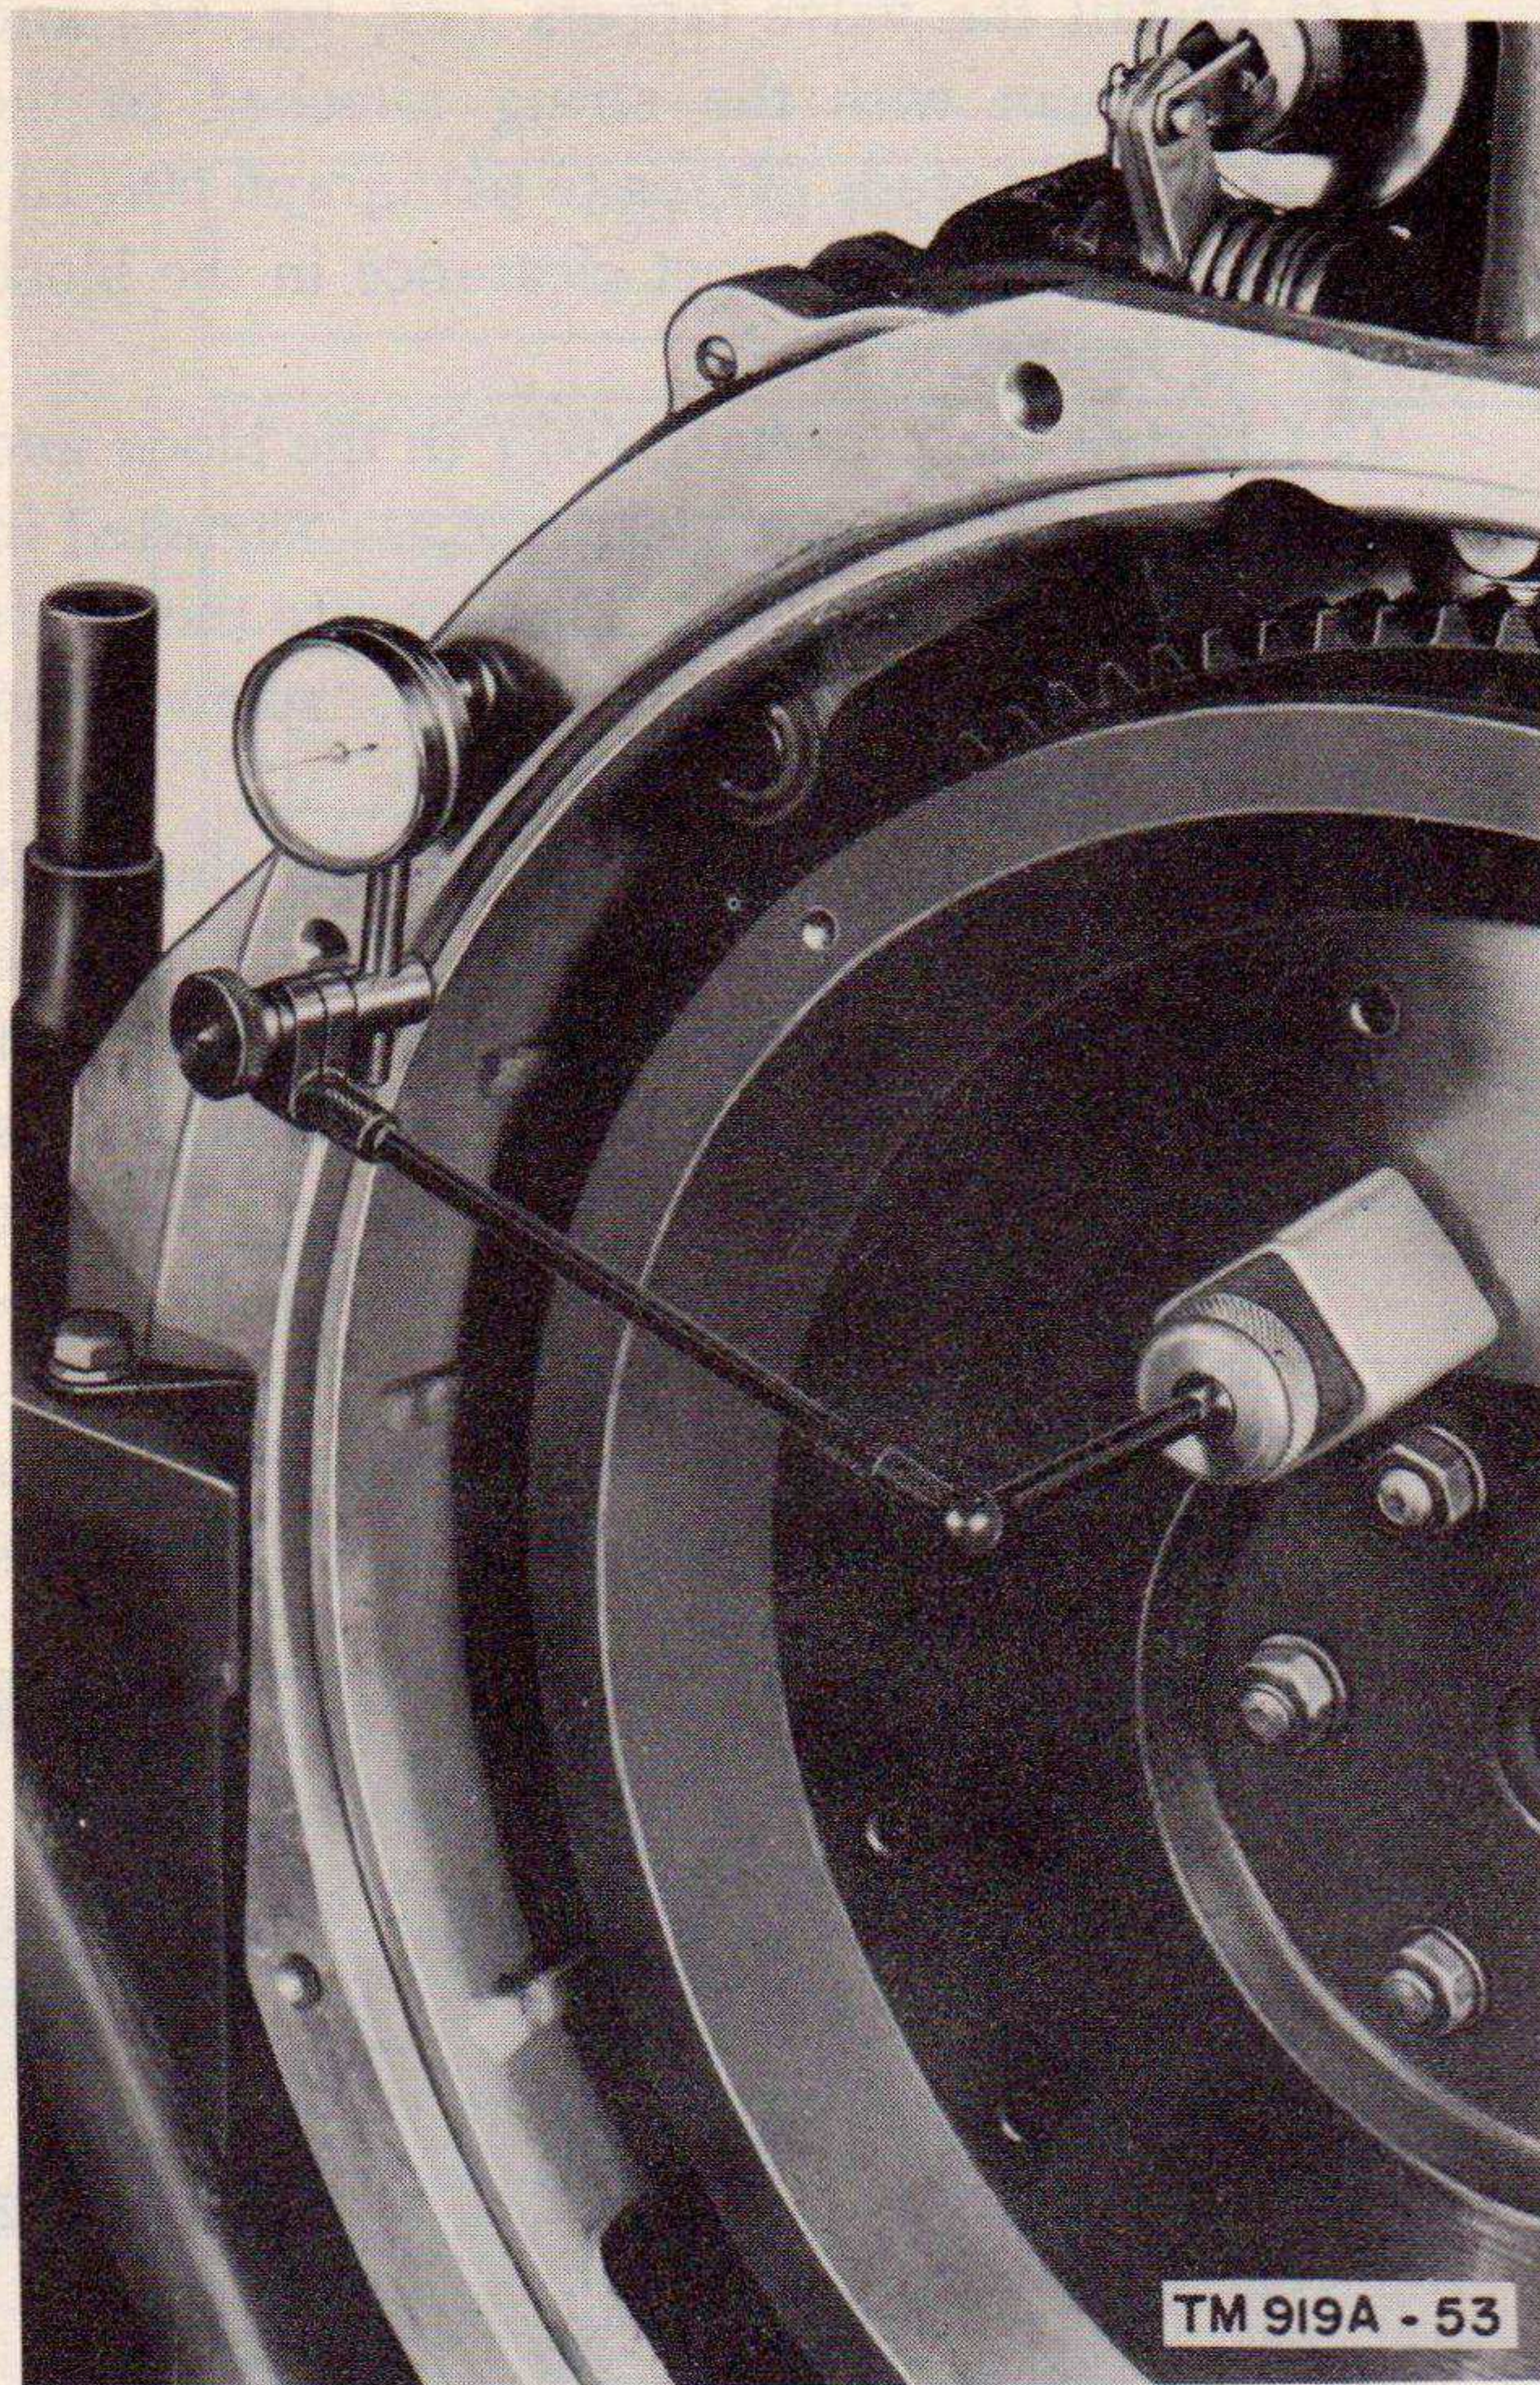

Figure 53. Checking face of flywheel housing with flywheel.
- (5) Check the face of the flywheel housing with a dial indicator as shown in figure 53. The housing should be parallel to the flywheel face within .003 inch. If the housing is not parallel, place shims between the engine block and the flywheel housing. Then recheck until the desired reading is reached. Be sure to tighten the bolts before each recheck.
- (6) Check the run-out of the flywheel with a dial indicator. It should not exceed .008 inch on the outer edge of the flywheel rear face.